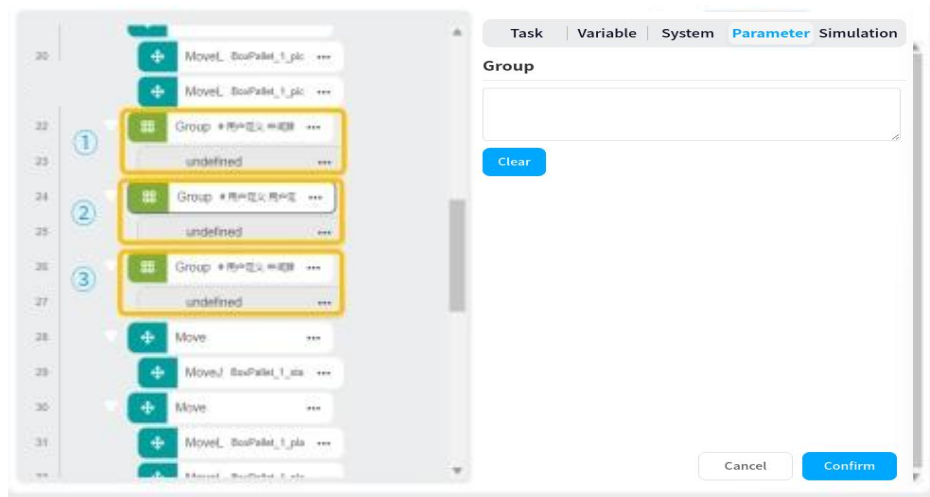

Figure 41
4、 Set the “Group custom lifting platform lifting” module, as shown in Figure 41.